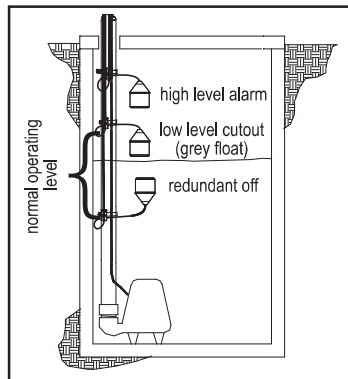

FIGURE 2 - Three float system with redundant off
6. If using an optional redundant off float, mount slightly below the low level cutout float, but above the pump as illustrated in **Figures 2 & 4**.